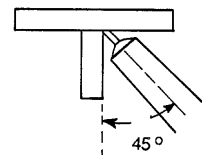

Figure 2.8
3. The electrode should be positioned at a 45° work angle and a 10° to 15° drag angle to perform the weld. (See Figures 2.8 and 2.9.)